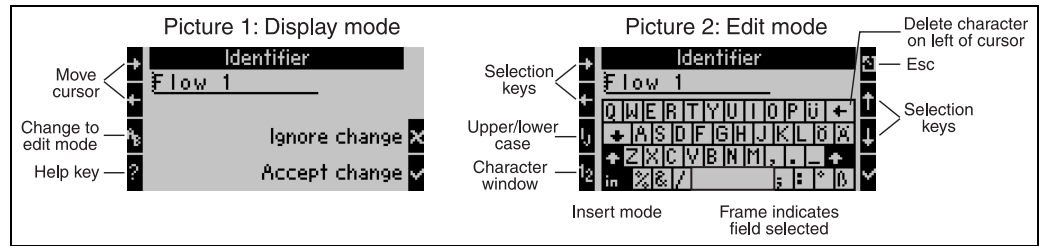

Fig. 17: Example: editing an identifier with the Palm keyboard
1. Using the cursor keys, place the cursor in front of the character before which another character should be entered. If the entire text should be deleted and rewritten, move the cursor completely to the right. (see Fig. 17, graphic 1)
3. Use the ij/IJ and ½ key to select upper/lower case or numerals. (see Fig. 17, graphic 2)
4. Use the cursors to select the key required and use the tick sign to confirm. If you want to delete text, select the key in the top right. (see Fig. 17, graphic 2)
6. Press the Esc key to switch from the editing mode to the display mode and accept changes with the 'tick' key. (see Fig. 17, graphic 1)
- The cursor cannot be moved in the editing mode (see Fig. 17, graphic 2)! Use the Esc key to go to the previous window (see Fig. 17, graphic 1) to move the cursor to the character which should be changed. Then confirm the AB key again.